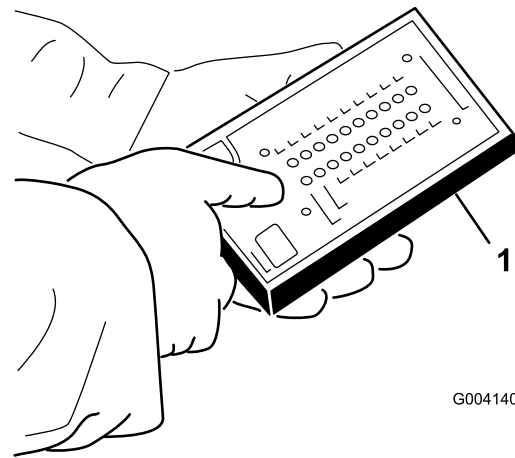

Figure 38
5. Connect the Diagnostic ACE display connector to the harness connector (Figure 38).